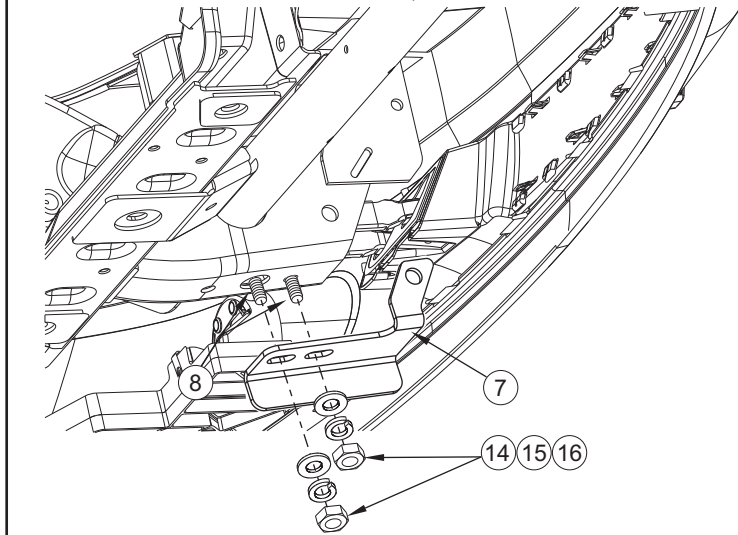

FIGURE 4
- STEP 5. Determine passenger and driver side brackets. Slide bracket in through the tow hook pocket. Align slots on bracket with holes on frame. Slide the two bolt plates inside the frame and out through aligned holes on both sides of the frame. Secure with 1/2" yellow zinc fasteners. Leave loose. It may be necessary to trim the fascia around the tow hook area in order to properly align the brackets. **SEE FIGURES 4 AND 5.** The 1/2-13 X 1.25" hex head bolt will attach the bottom bracket to the support brace.